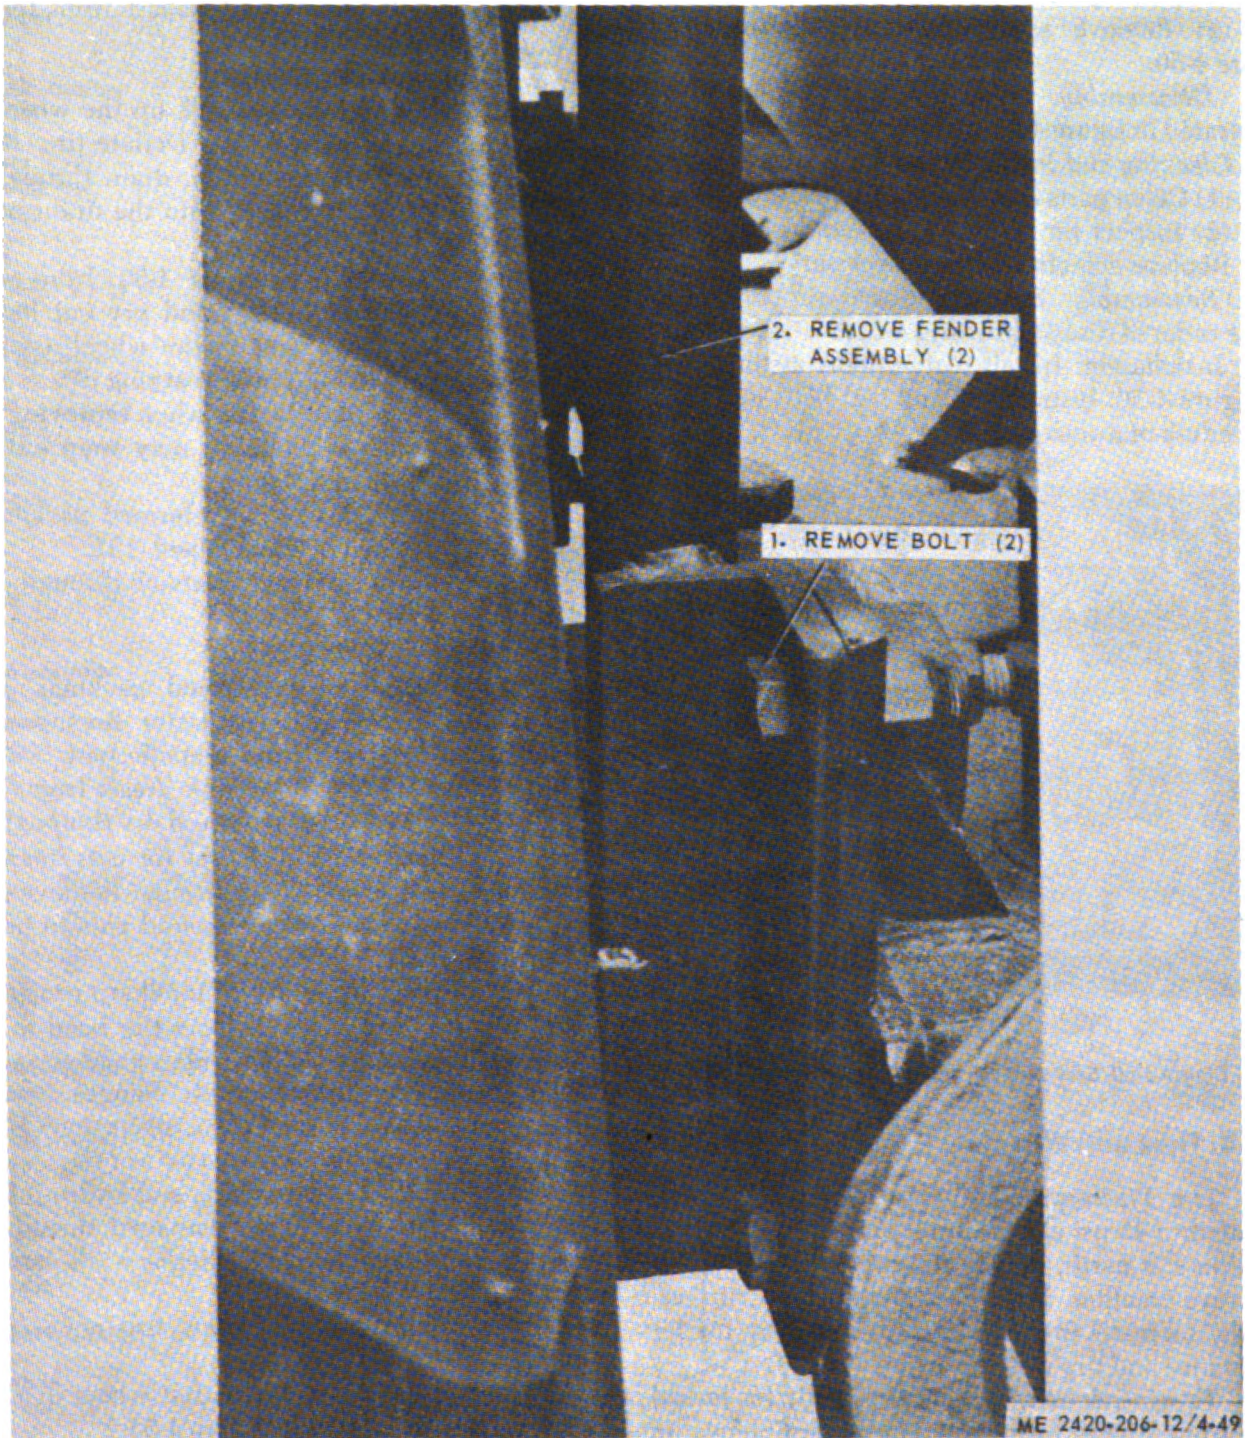

Figure 4-49. Rear fenders, removal and installation.
a. Removal. Remove rear fenders from tractor as illustrated in figure 4-49.
(1) Clean parts and dry thoroughly.
(2) Inspect for cracks, breaks and damage. Replace unrepairable defective rear fenders as necessary.
c. Installation. Install rear fenders as illustrated in figure 4-49.